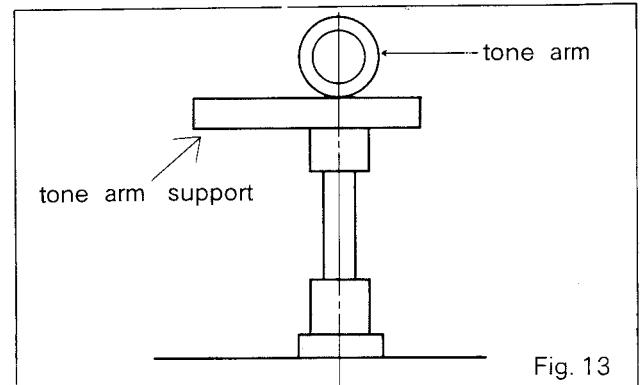

Fig. 13
- (b) When the tone arm reaches the position shown in Fig. 13 in auto return operation, stop the rotation of the turntable (turn off the power) and measure the gap between the stylus point and record surface.